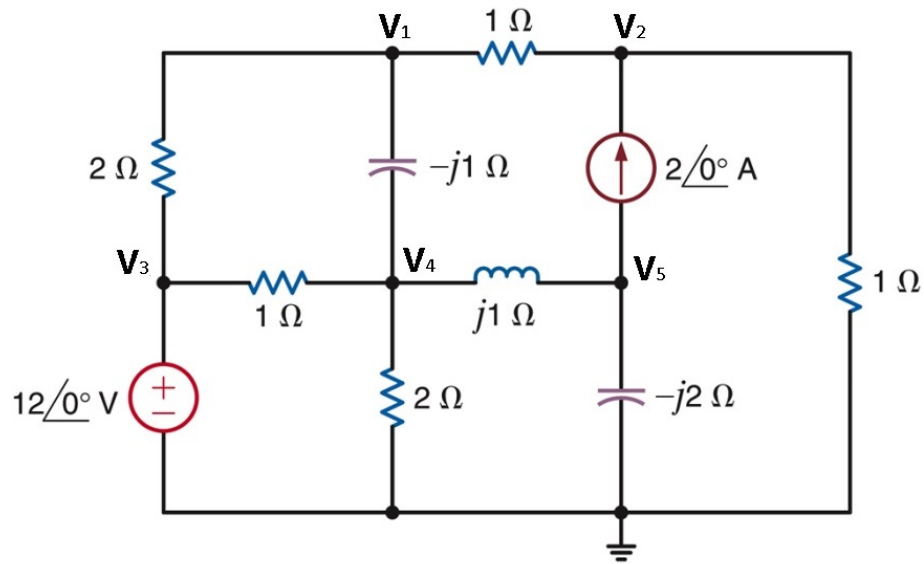

Figure 7: Circuit for Exercise 5
5) Write nodal equations for the circuit in Figure 7 (put in matrix notation). Solve your equations using MATLAB. Include your nodal equations, MATLAB code, and MATLAB solution (polar form) in your report. No mesh analysis is required for this exercise.